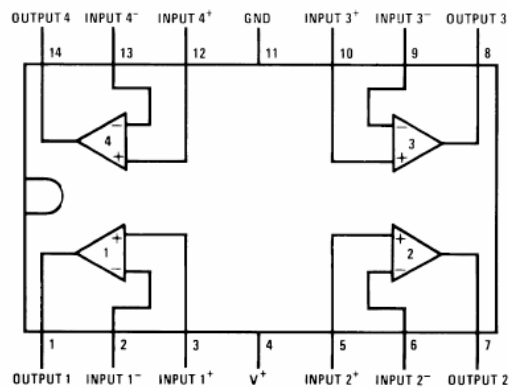
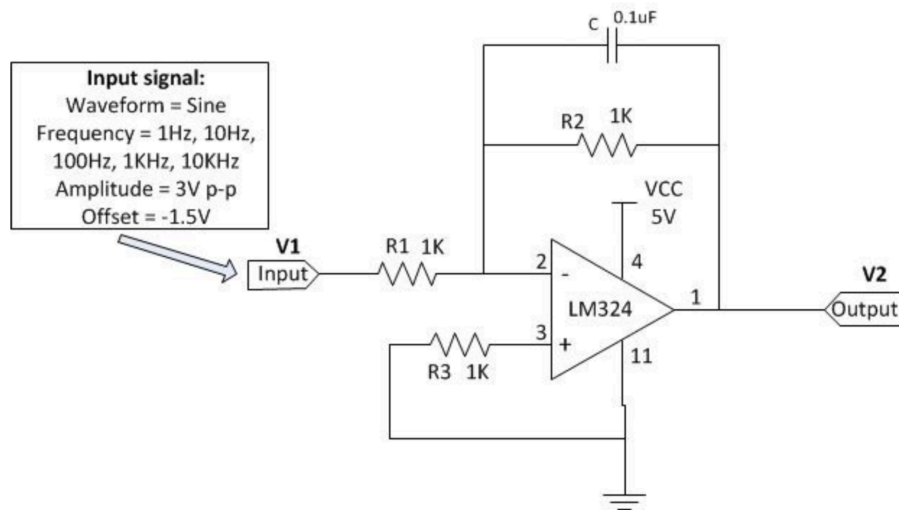
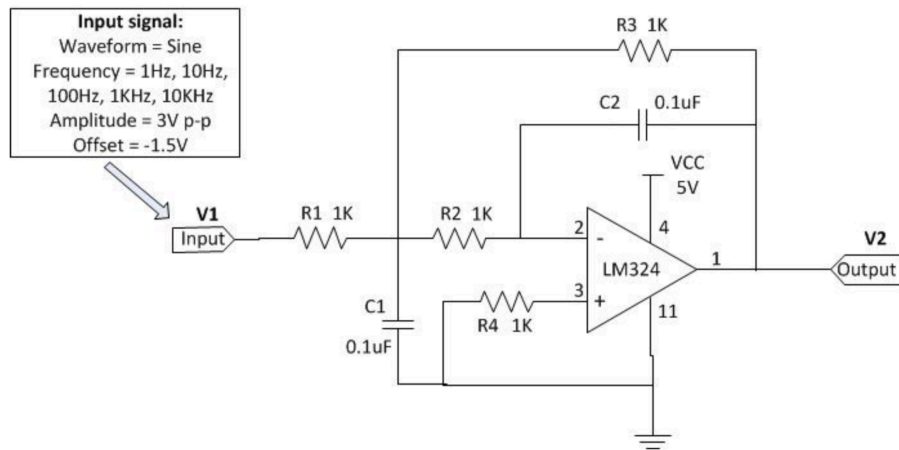
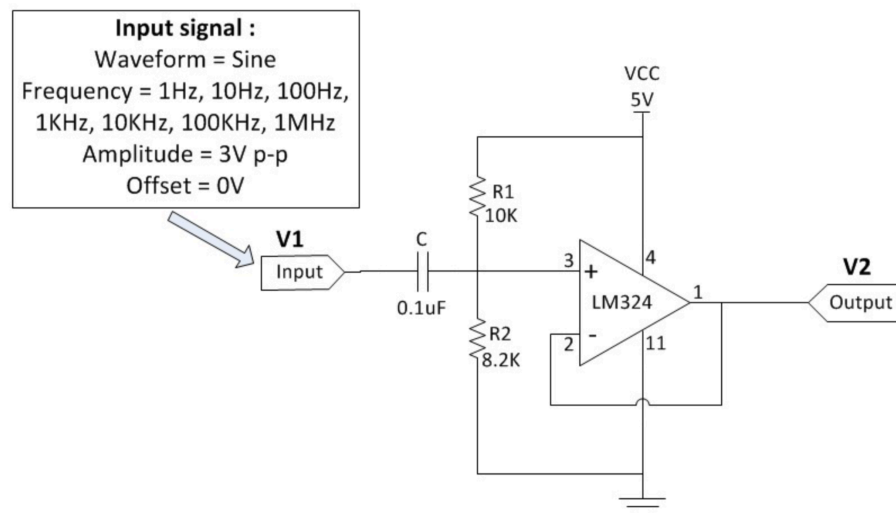

Figure 1: Pinout for the LM324.
Figure 2: Low pass filter.
Figure 3: Two-pole Low pass filter.
Figure 4: High pass filter.
- 1) Use pinout diagram for LM324 op amp IC shown in Figure 1 to construct the low pass filter circuit as shown in Figure 2.
- 4) Connect channel 1 input (X) of the oscilloscope to the output of low pass filter and connect channel 2 input (Y) of the oscilloscope to the input of low pass filter.
- 1) Use pinout diagram for LM324 op amp IC shown in Figure 1 to construct the two-pole low pass filter circuit as shown in Figure 3.
- 1) Use pinout diagram for LM324 op amp IC shown in Figure 1 to construct the high pass filter circuit as shown in Figure 4.